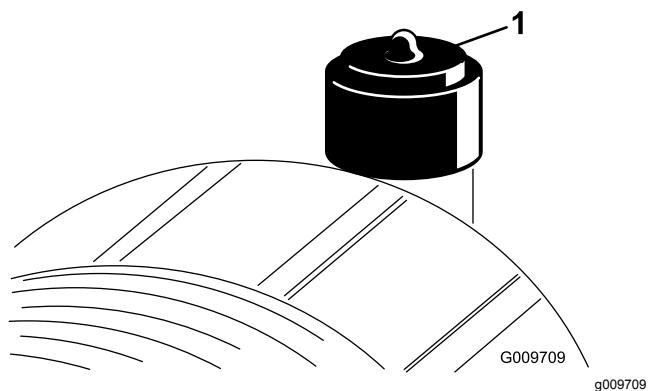

Figure 75
Service the air-cleaner filter only when the service indicator (Figure 75) requires it. Changing the air filter before it is necessary only increases the chance of dirt entering the engine when you remove the filter.
**Important:** Never attempt to clean the safety filter (Figure 75). Replace the safety filter after every 3 primary filter services.
2. Reset the indicator (Figure 75) if it shows red.